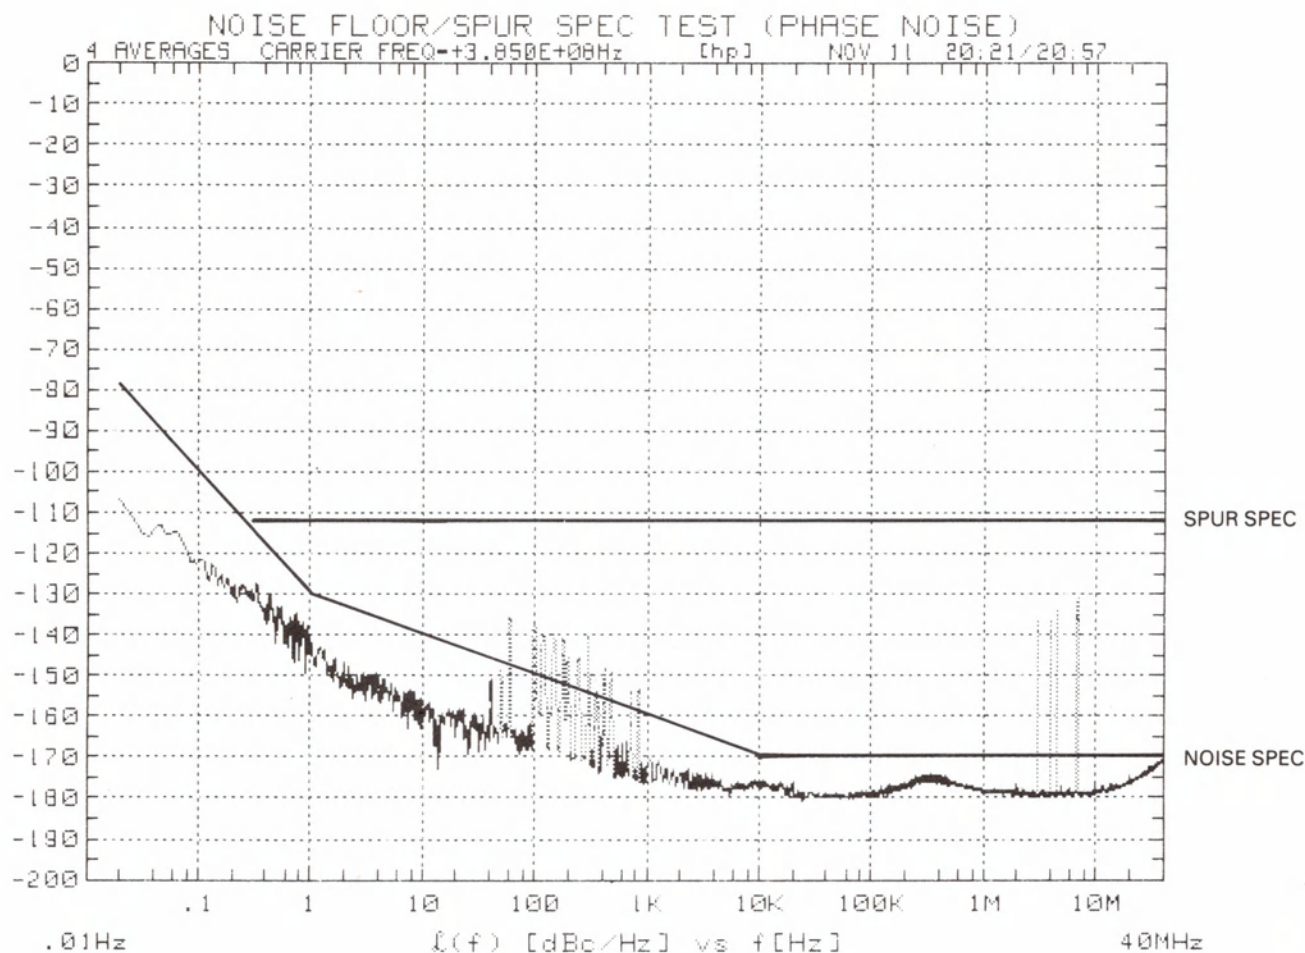

Figure 3-3. Phase Noise Analysis Noise Floor and Spur
11. When the plot is complete, press K13 of the -hp- 9845T to generate a hardcopy of the measurement result. Verify that the Spur and Noise specifications (shown in Figure 3-3) are met. Attach this copy to the Installation Operation Verification Test Card at the end of this section.